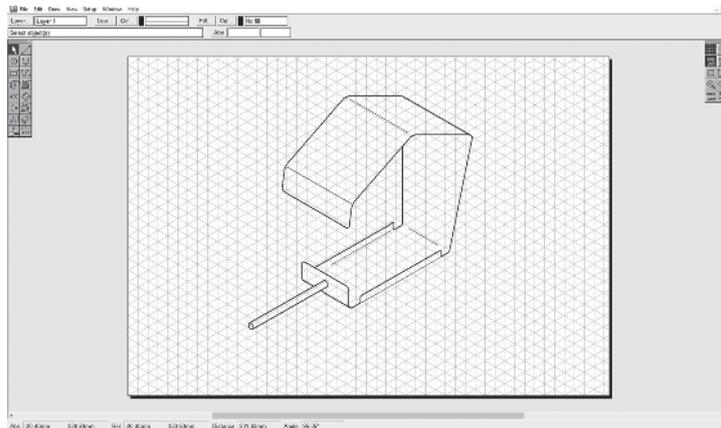

Fig. 12.2
- (b) Fig. 12.2 shows a screenshot of part of the bird feeder designed using CAD.